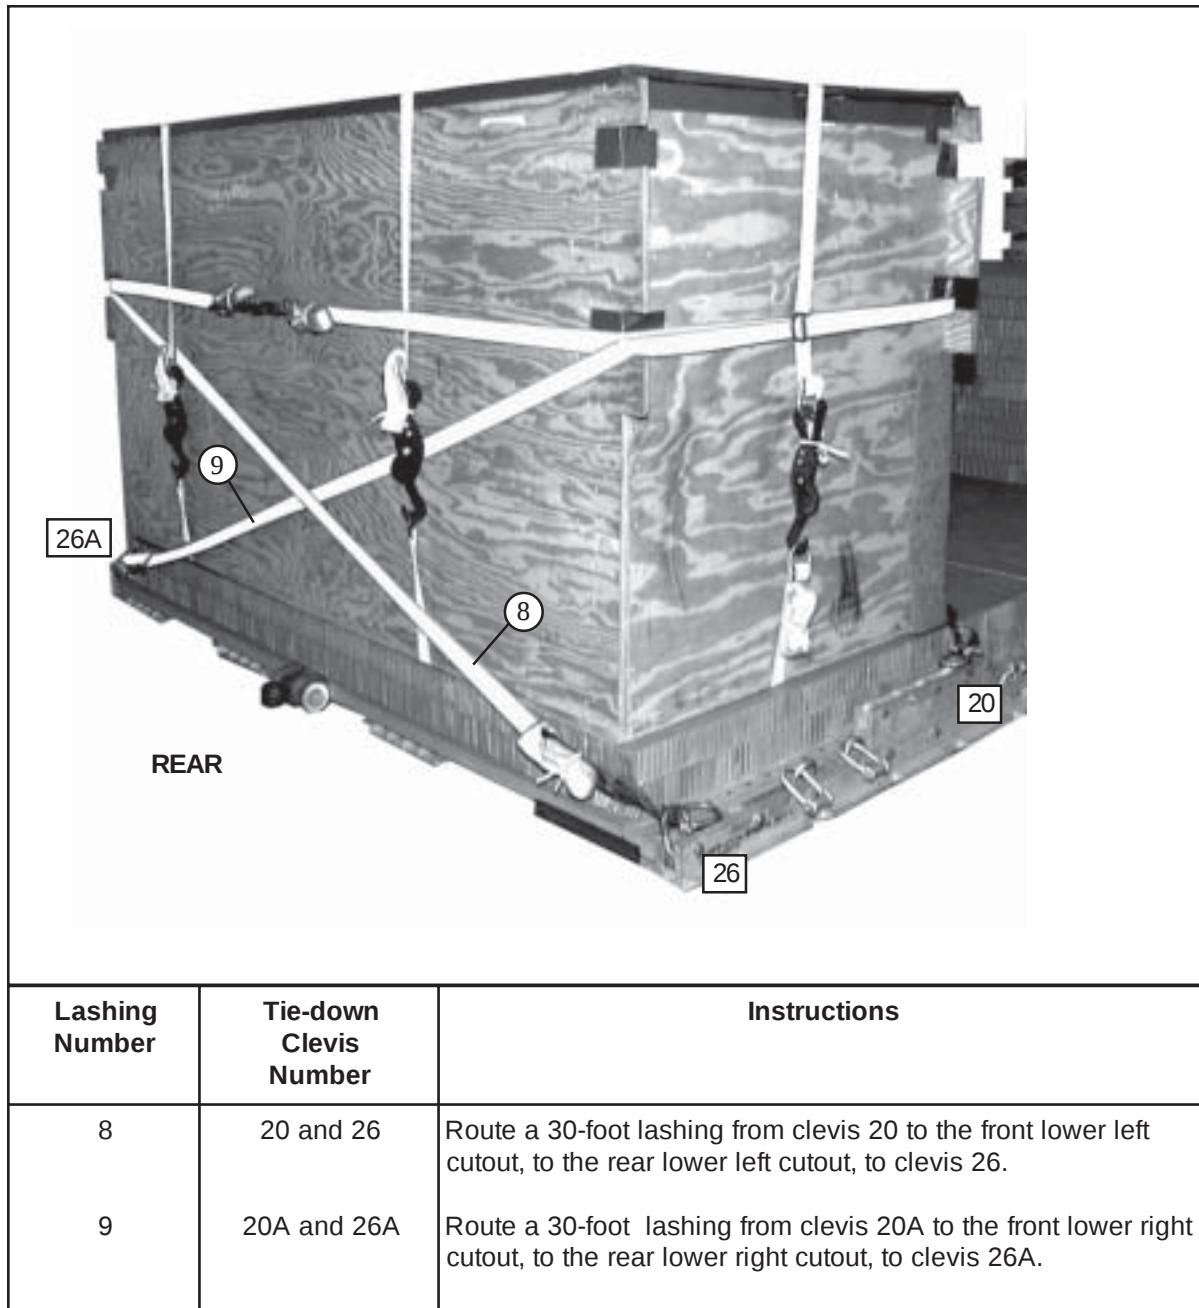

Figure 4-19. Lashings 8 and 9 Installed
b. Lash the rear equipment box to the platform as shown in Figures 4-19 through 4-21.